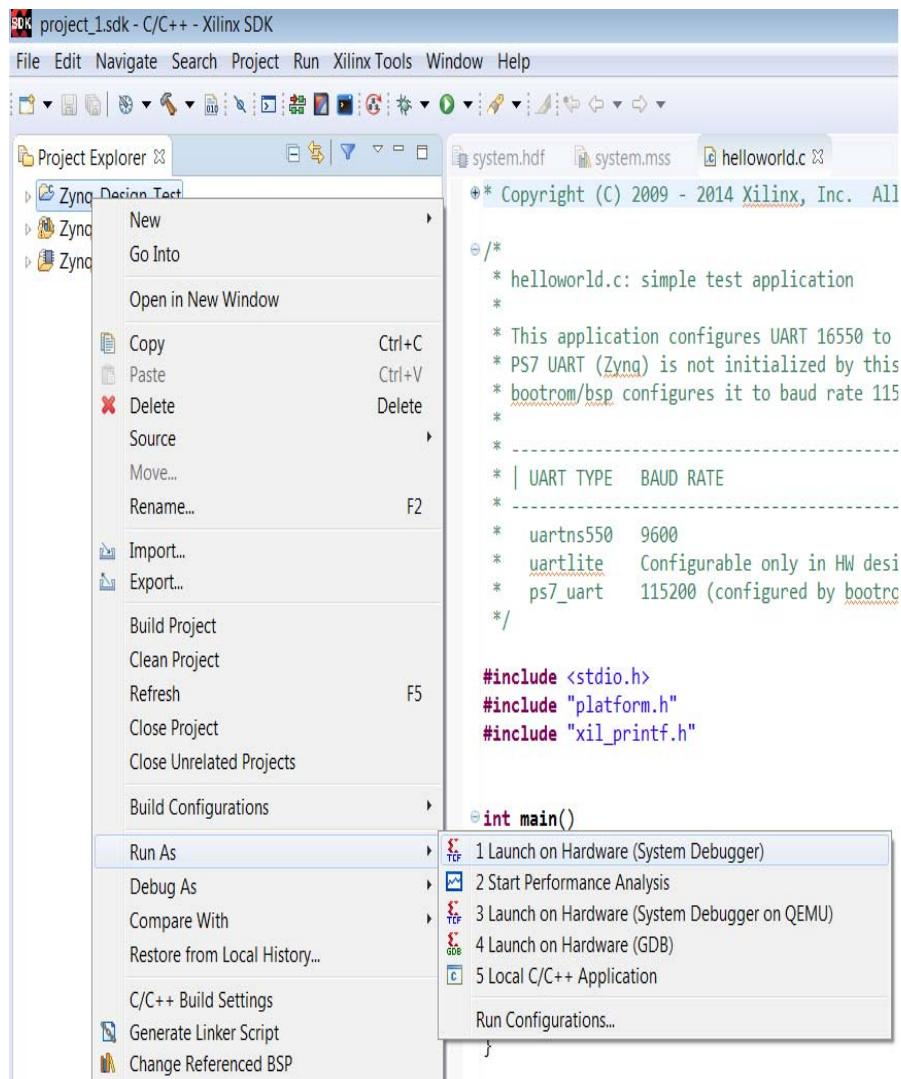

Figure 10-25: Run the Application Project
- Right-click the application project **Zynq_Design_Test** in the Explorer pane (Figure 10-25).